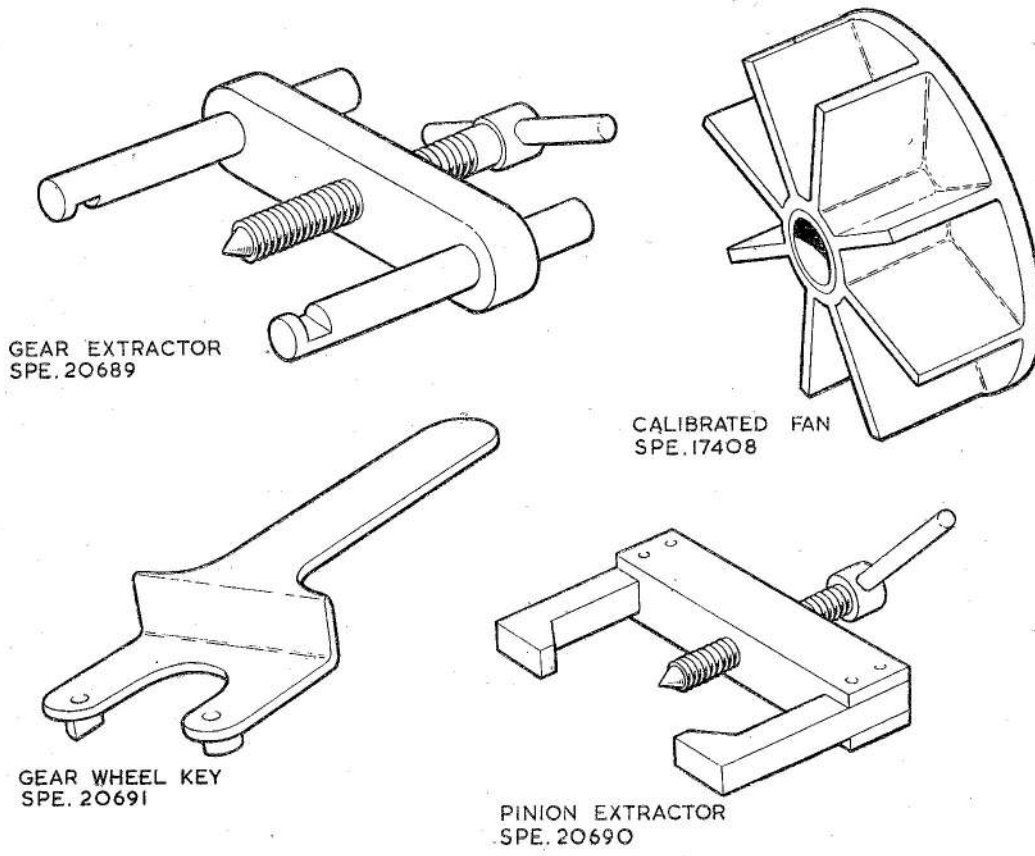

Fig. 6. General tools
16. (1) Hold the pinion and remove the self-locking nut (162) together with the washer (163). Draw off the pinion (98B) using the special extractor tool SPE. 20690 (fig. 6) and retain the shaft key (99).